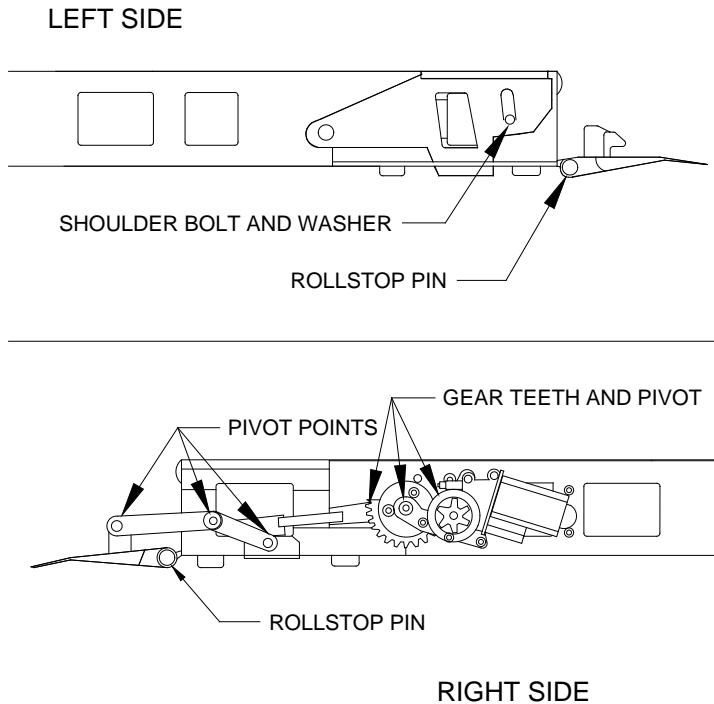

FIGURE 4-4: ROLLSTOP LUBRICATION POINTS
- 5) Refer to **Figure 4-4**. Lubricate Rollstop pivot points and gears (both sides of platform) using light grease (ZEP PLS, p/n 497C, Curtisd[®] Red Grease P/N 88167, or equivalent). Wipe off excess grease.